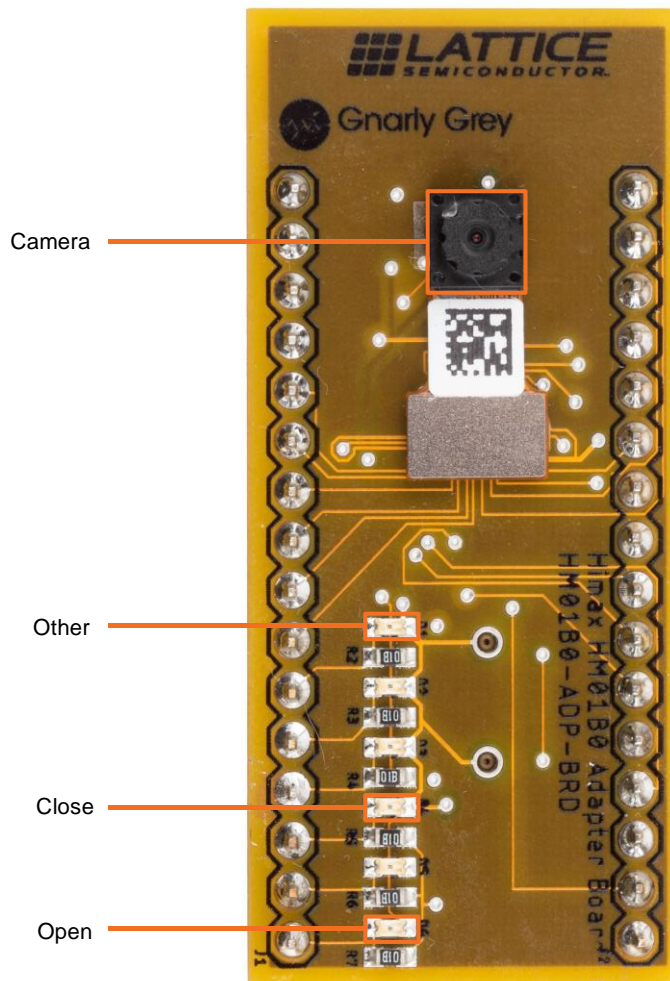

Figure 5.1. Camera and LED Location
3. Simply place a closed hand, open hand, or nothing at all to see the LED light toggle. Refer to Figure 5.1 for the location of the Camera and LED lights.